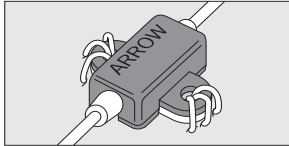

Figure 7
- Secure catheter clamp and fastener as a unit to patient by using either catheter stabilization device, stapling or suturing. Both catheter clamp and fastener need to be secured to reduce risk of catheter migration (refer to Figure 7).